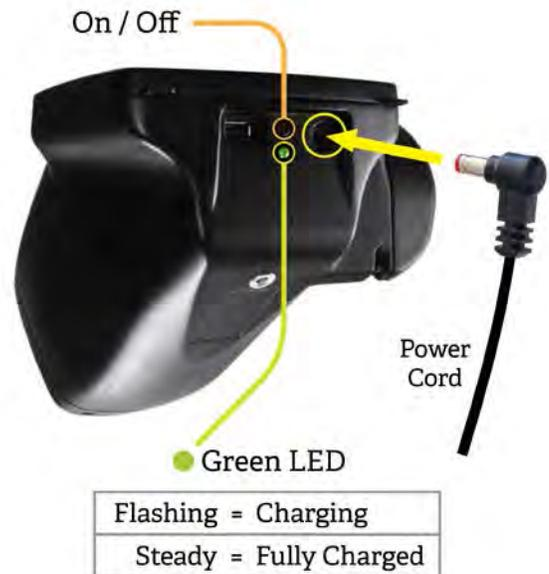

Figure 5
3. Locate the DC power connector  on the vision screener and connect the power supply/charger (see *Figure 5*). The DC power connector on the power supply/charger will easily insert into the DC power connector on the vision screener. Using force to connect the power charger can damage the device and will void the warranty.